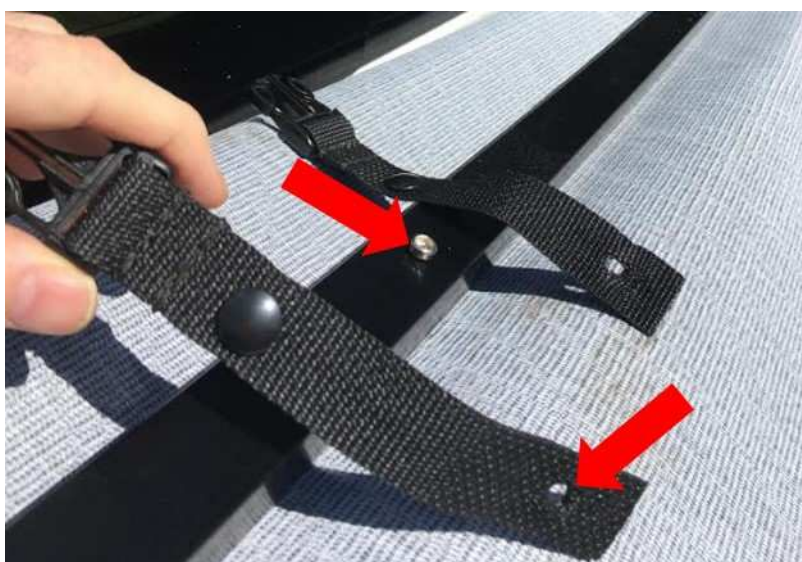

Fig. 1
- One or more of the tri-fold tonneau cover retention straps have torn off the frame assembly (Fig. 1) .